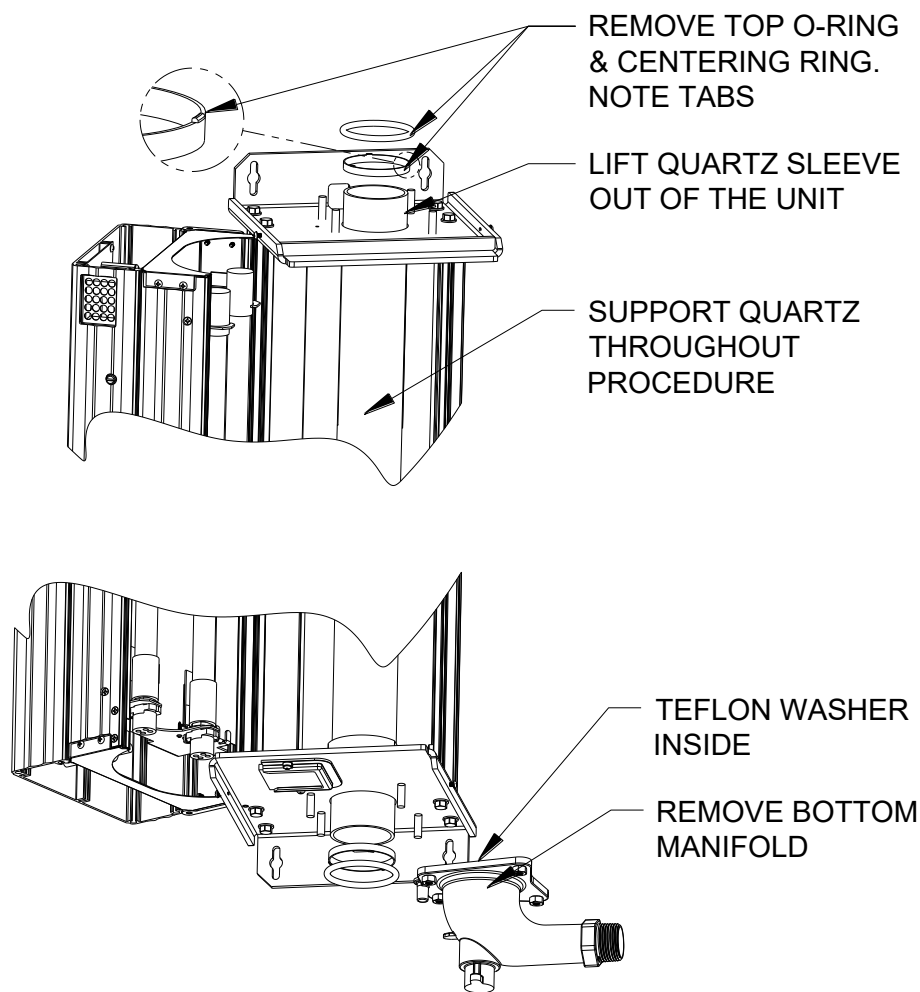

Figure 7.7
Step 4: If the quartz sleeve is still not clean, it requires replacement. This is done by removing the bottom manifold (see Figure 7.7). Replacing a quartz sleeve is easier when the unit is placed on a horizontal surface – removing the unit from the wall to work on a bench is recommended, especially for the Hallett 1000 models.
Step 9: Replace the bottom manifold (see Fig. 7.7) by installing the four nuts in an alternating pattern (top left, bottom right, bottom left, then top right). Check again for Teflon washer.